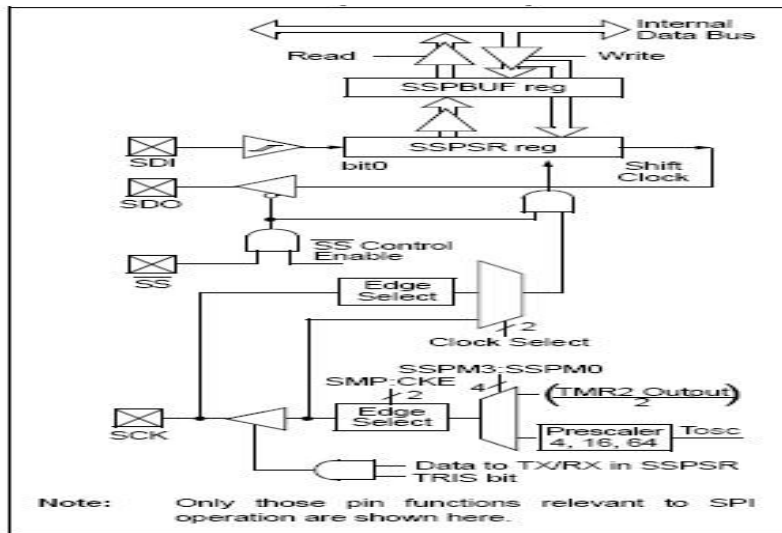

Figure 10: Block diagram of the SPI Communication module
Additionally, a fourth pin may be used in a slave mode of operation, the Slave Select (SS) – RA5/AN4/SS/HLVDIN/C2OUT pin. Figure 10 shows the block diagram of the SPI communication module.